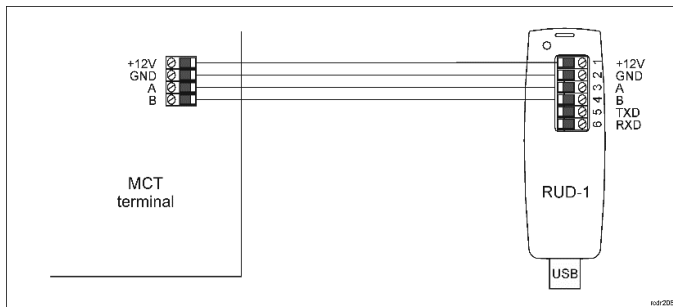

Fig. 1 Connection of MCT terminal to RUD-1 interface
1. Connect the device to RUD-1 interface (fig. 1) and connect the RUD-1 to computer's USB port.
The firmware of device can be changed to newer or older version. The update requires connection to computer with RUD-1 interface (fig. 1) and starting RogerVDM software. The latest firmware file is available at www.roger.pl.